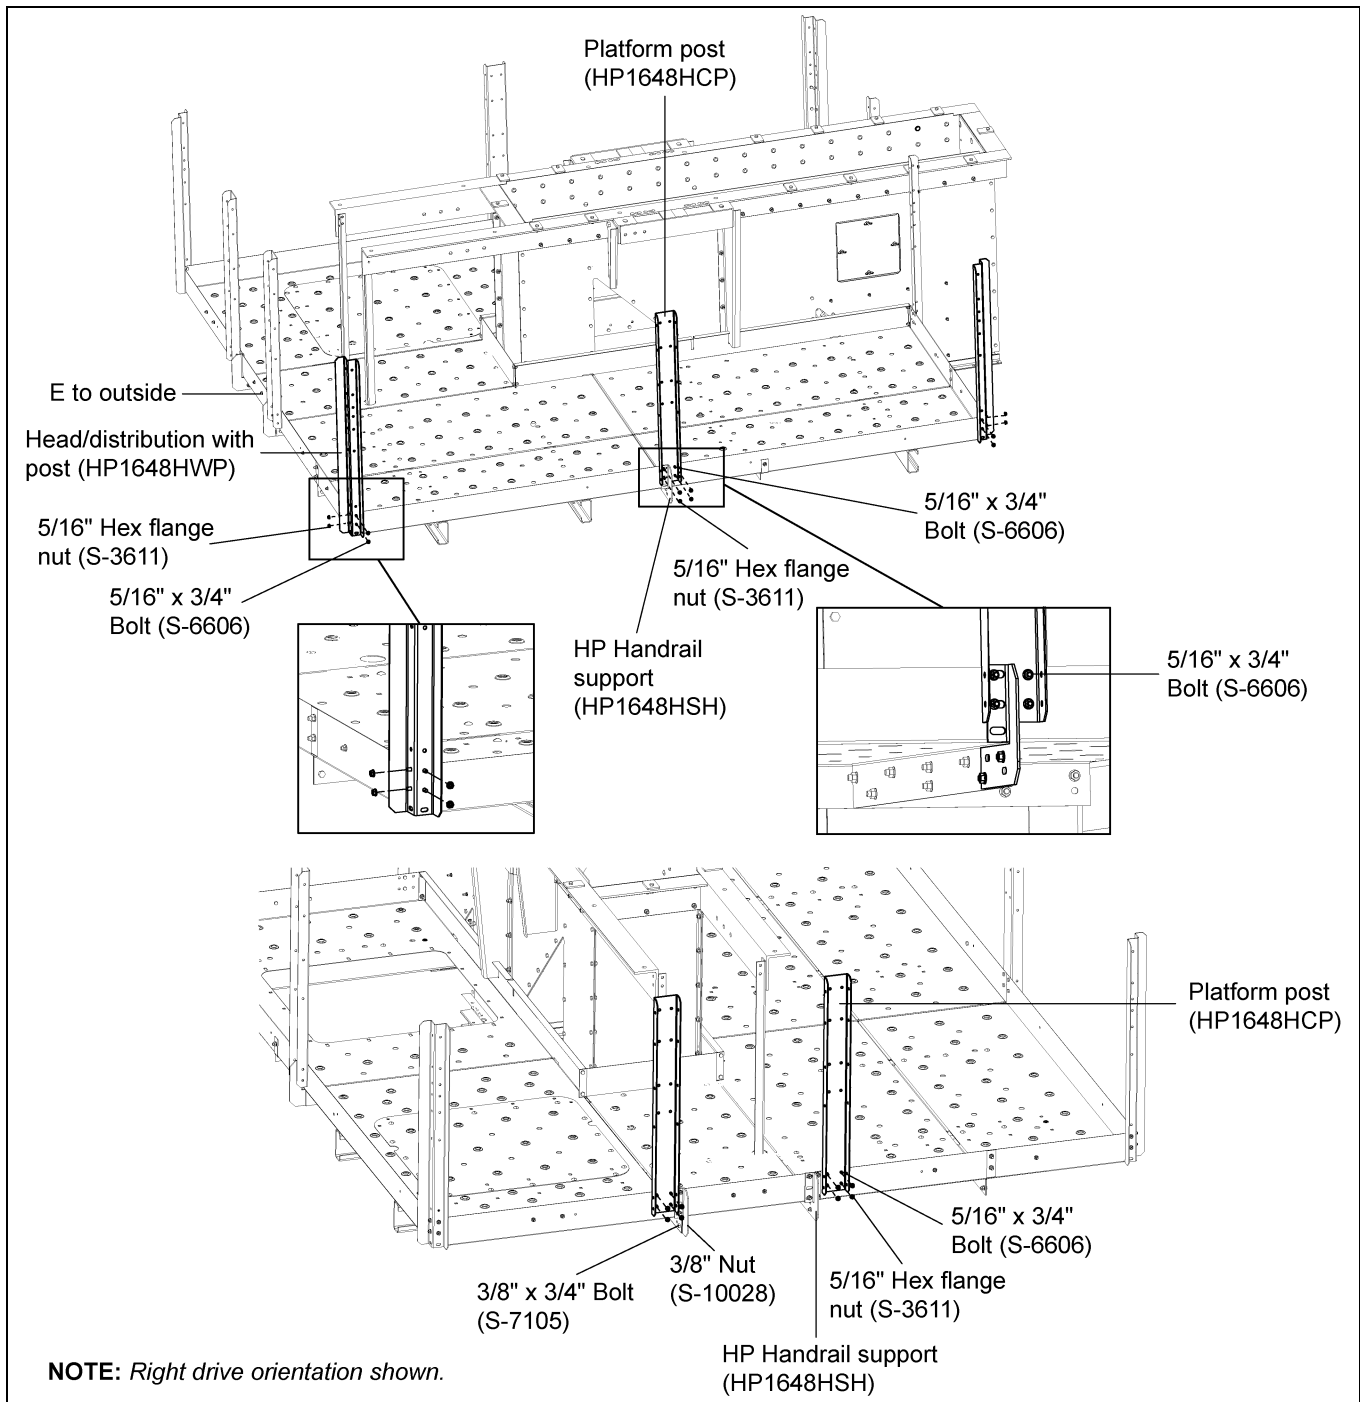

Figure 10D
1. Attach two (2) "W" posts (HP1648HWP) to the corner of Deck F using 5/16" x 3/4" bolts (S-6606) and nuts.
2. Attach platform post (HP1648HCP) and HP handrail support (HP1648HSH) to the middle of Deck F. Use 5/16" x 3/4" bolts (S-6606) to attach post to deck. Use 5/16" x 3/4" bolts (S-6606) to attach support bracket, post and deck together. (See Figure 10D.)
3. Attach platform posts to Deck A and Deck C as shown in Figure 10D. Use four (4) 5/16" x 3/4" bolts (S-6606) and nuts for each post.